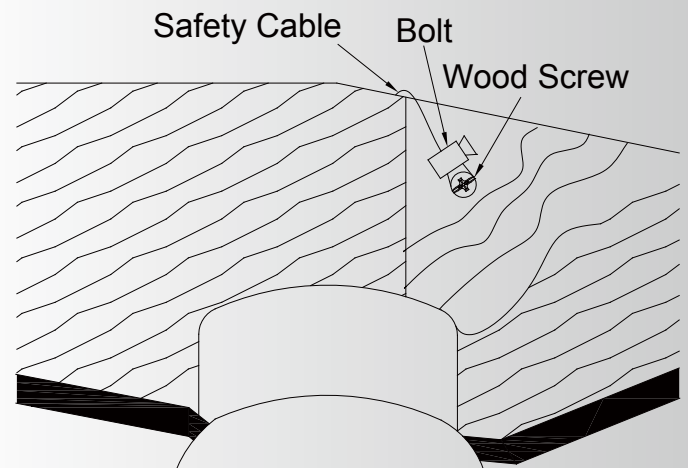

Fig. 14
Step2. Insert the safety cable through the mounting bracket and one of the holes in the outlet box into the ceiling. Adjust the length of the safety cable to reach the screw and washers by pulling the extra cable through the cable clamp until the overall length is correct, put the end of the cable back through the cable clamp, forming a loop at the end of the cable. Tighten the cable clamp securely. Now, put the loop in the end of the safety cable over the wood screw and under the washer. Tighten the wood screw securely. (Fig. 14)